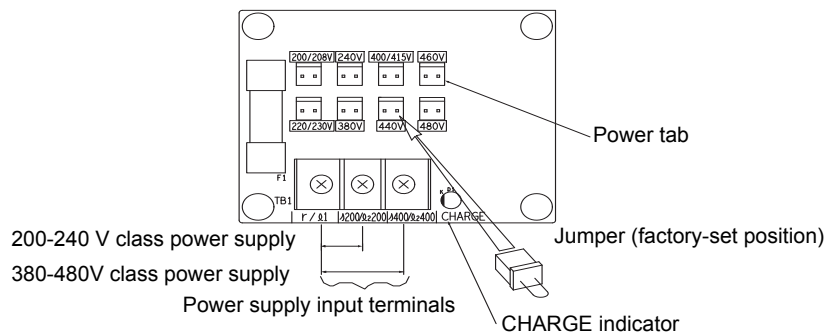

Fig 4.2 Power Supply Voltage Jumper
4. Insert the jumper at the position for the voltage supplied to the drive (see *Fig 4.2*).